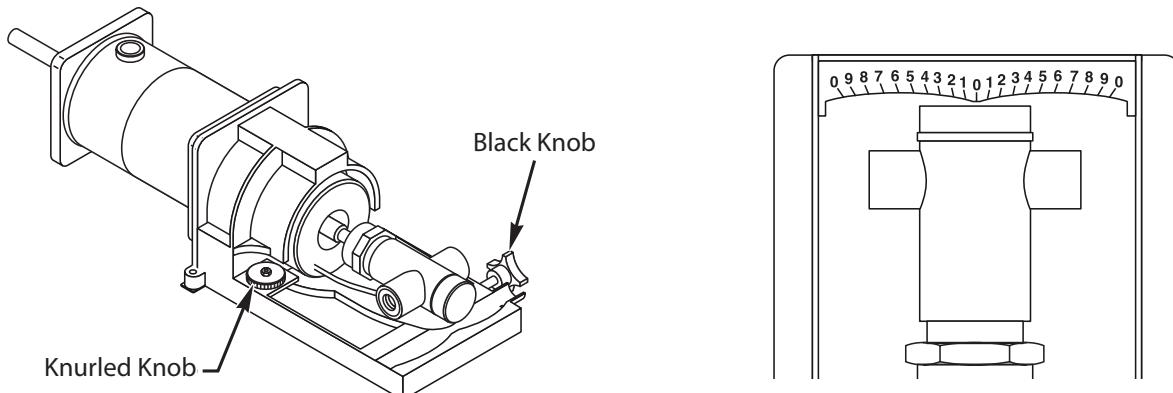

Figure 12 - Adjusting the Flow Scale
2. Loosen the pump pointer locking plate by slightly loosening the two round knurled knobs, one on each side of the locking plate. Loosen only enough to move the pointer. The pointer should be moved against a slight pressure. Reference Figure 12 on page 18.
3. Turn the black knob on the side of the pump to increase or decrease the flow setting. The flow scale is an arbitrary scale and is marked from 0-10 (zero to ten), which represents roughly 0-100% of flow rate. Reference Figure 12 on page 18.